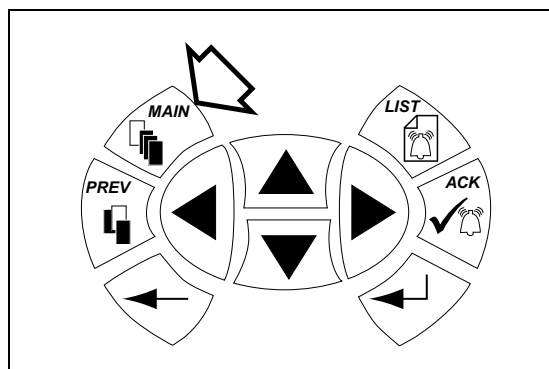

Figure 7-11: Main Key
1. Press the **MAIN** key in the Built-In Function keys (Figure 7-11). The Main Screen displays.